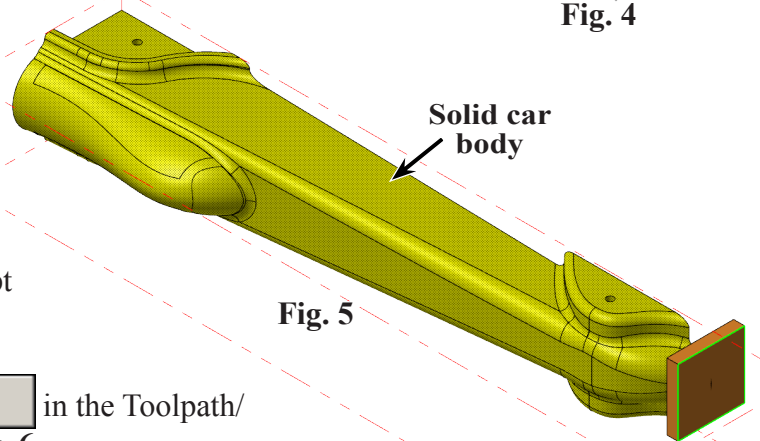

Fig. 5
Step 3. Click the **solid car body** to select as Drive Surfaces, Fig. 5. The solid will highlight when selected.